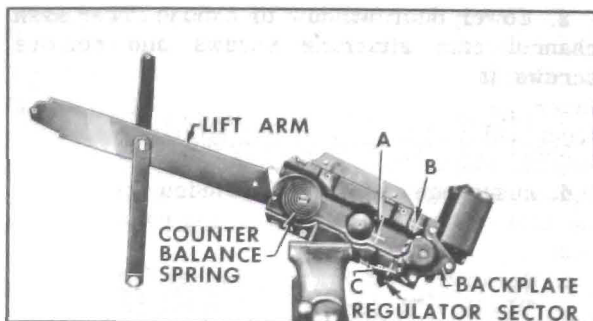

Figure 2-25—Door Window Regulator and Motor Assembly
1. Remove front door electric window regulator assembly from door as previously described and clamp it in a vise (see Figure 2-25).
4. Remove motor attaching bolts and remove motor assembly from regulator (see Figure 2-25).